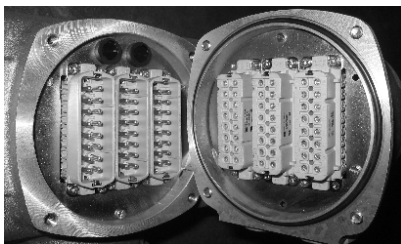

Figure 8.2.1
A) Electric actuator with **Plug-socket connectors** (Figure 8.2.1) with screws